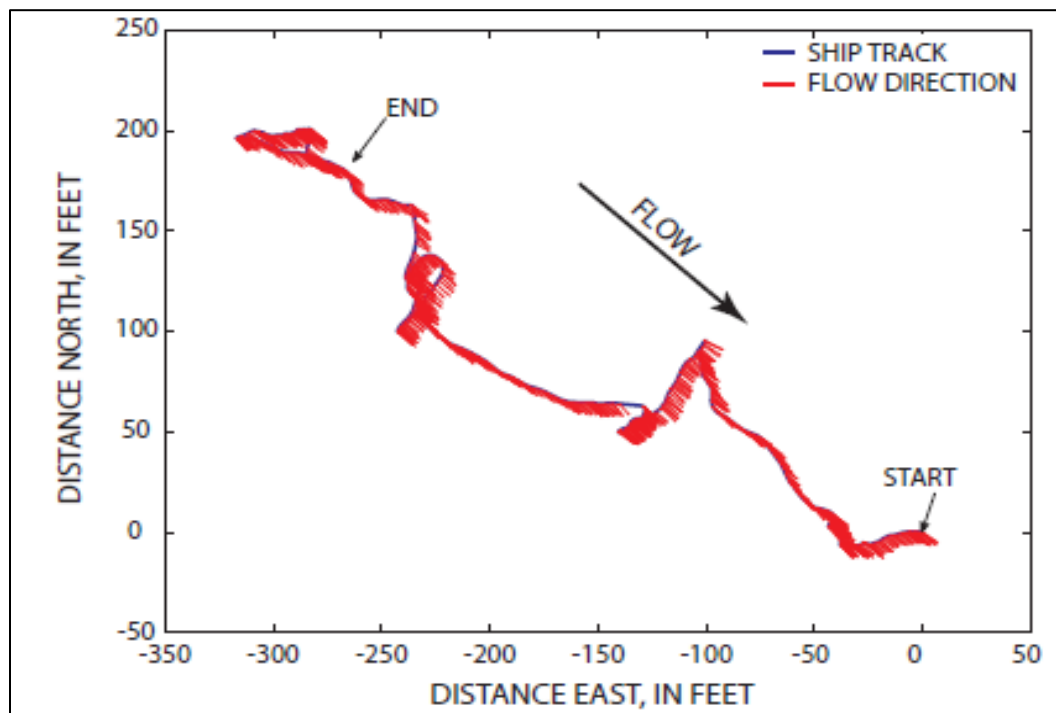

Figure 2.—Example of a moving bed measured with an ADCP on the Mississippi River, Chester, Illinois (Mueller et al., 2013).
- a. **Stationary Test Without GPS.**—The ADCP should be positioned at the location in the measurement section expected to have the highest potential for a moving bed. The ADCP should be held stationary in that same position while recording for no less than 5 minutes if tethered; 10 minutes on an unanchored boat. A moving-bed condition is present when the ADCP appears to have moved upstream (figure 2). The bed is considered to be in motion if the moving-bed velocity (or boat speed) is greater than 1 or 2% of the mean water velocity for tethered and manned boating conditions, respectively.